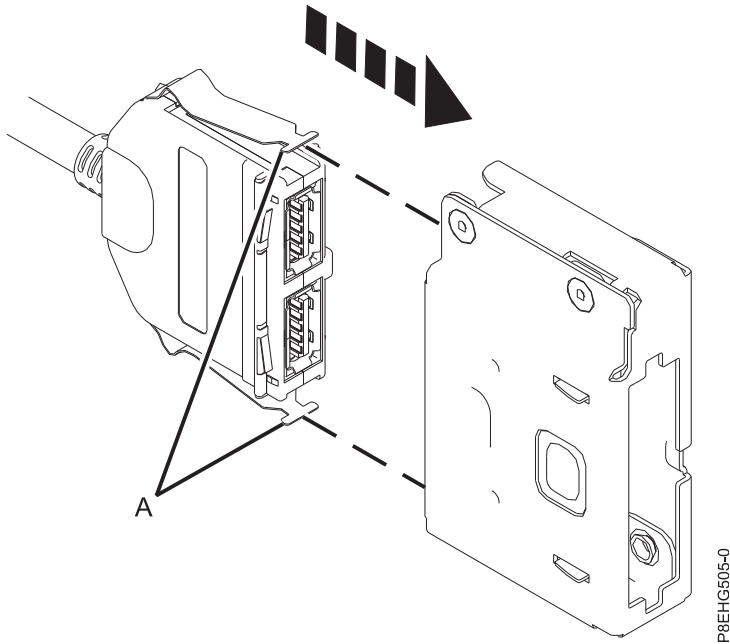

Figure 11. Separating the USB cable from the housing
- d. Separate the front USB cable from the metal housing that is used to mount it in the front of the system chassis. Press on tabs (A) and pull off the housing from the cable end as shown in Figure 11 on page 12.